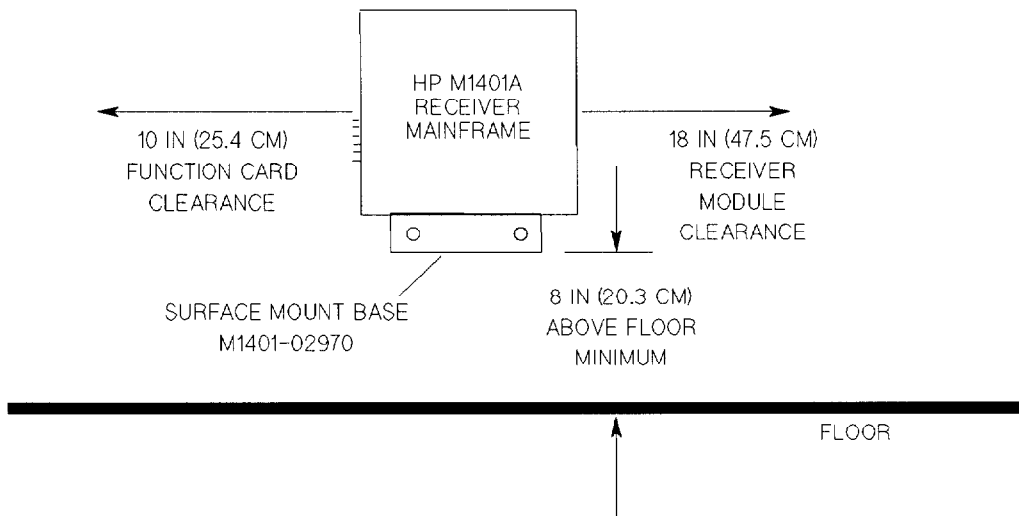
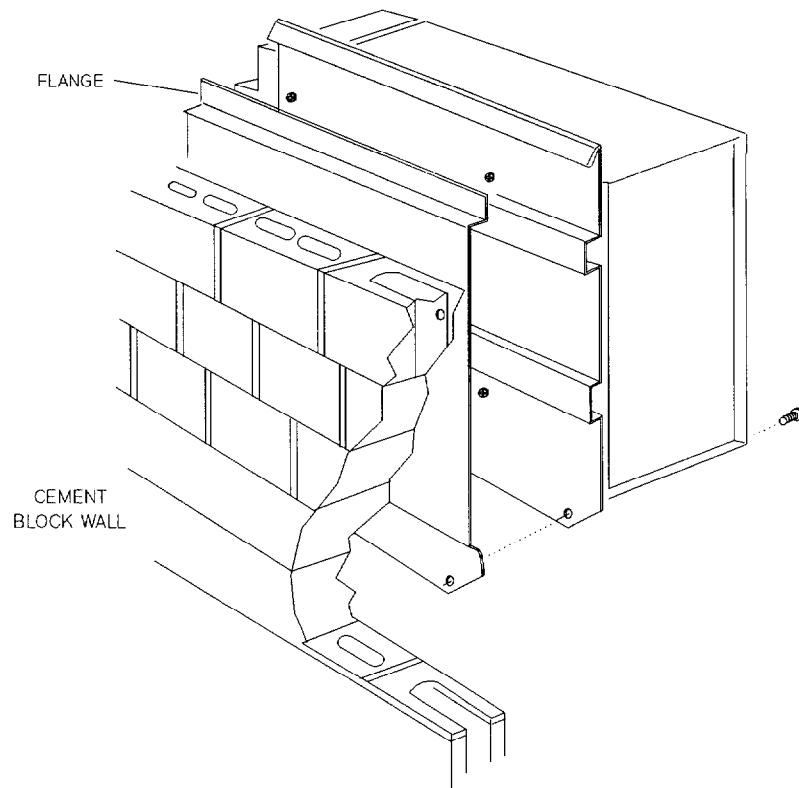
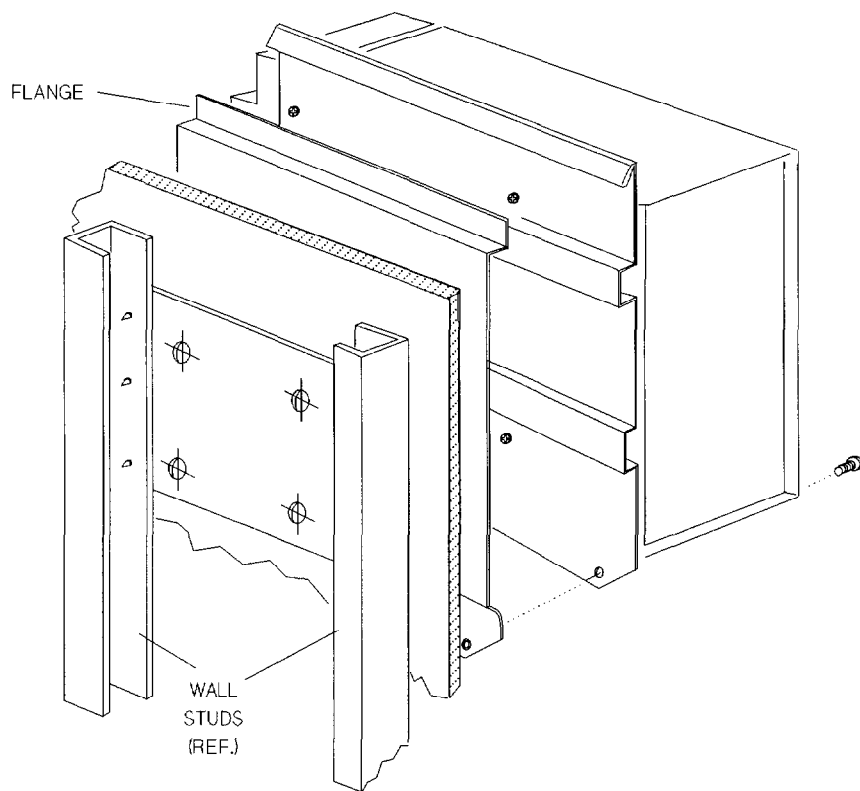

Figure 1-14. Locating the Wall Mount
Figure 1-15. Installation on Hollow Block Wall
Figure 1-16. Installation on Drywall Construction
Recommended **minimum** height distances for wall mount (Figure 1-14) are:
Allow clearances shown in Figure 1-14 to allow mainframe access for removal and servicing.
As shown in Figure 1-15, the base is installed using 1/4-20 pan head machine screws with toggle wings, or mount the shelf using 10-32 pan head machine screws with toggle wings.
1. Mark wall with mounting hole locations using selected mount as a template, using the guidelines in the paragraph before this one to locate mount. Holes must be within the hollow portion of each block (Figure 1-15).
4. Install wall mount shelf or base (Figure 1-15) as follows:
- e. Pass each screw through a mounting hole in the base or shelf and apply its toggle wing, as shown in Figure 1-15.
1. Use guidelines in Figure 1-14 to determine wall mount height.
2. Mark wall with mounting hole locations using selected mounting base or shelf as a template (Figure 1-15).
All drywall installations (Figure 1-16) must be provided with a secure anchorage built into the wall framing.
Refer to Figure 1-14 for placement heights, and Figure 1-16 for information about installation on drywall construction.
1. Attach M1401-02990 **hook** to HP M1401A Receiver Mainframe with four M5 x 10 mm machine screws and washers (Figure 1-15 or Figure 1-16). **The mainframe should face to right (heat-sink to left) as you face wall.**